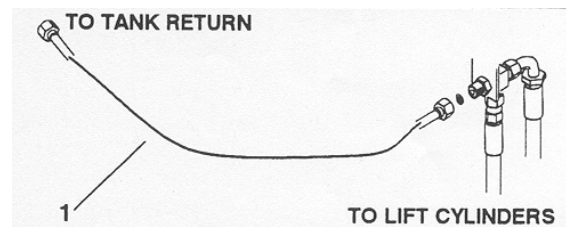

Figure 10
1. Disconnect and remove the hydraulic tube secured to the tank return and the lift cylinder bulkhead fittings (Fig. 10).